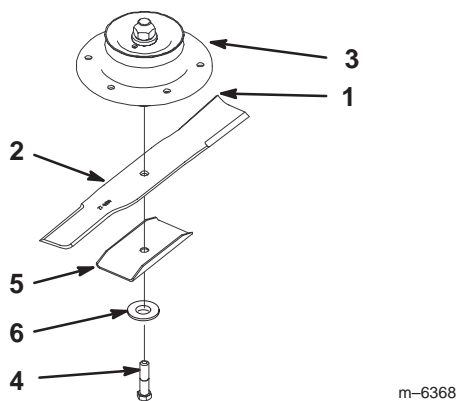
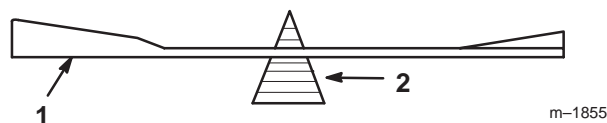

Figure 42
Figure 44
1. Hold the blade end using a rag or thickly-padded glove. Remove the blade bolt, blade stiffener, washer, and blade from the spindle shaft (Fig. 42).
2. Check the balance of the blade by putting it on a blade balancer (Fig. 44). If the blade stays in a horizontal position, the blade is balanced and can be used. If the blade is not balanced, file some metal off the end of the sail area only (Fig. 42). Repeat this procedure until the blade is balanced.
1. Install the blade onto the spindle shaft (Fig. 42).
Important The sail part of the blade must be pointing upward, toward the inside of the mower to ensure proper cutting (Fig. 42).
2. Install the lock washer and blade bolt (Fig. 42). Torque the blade bolt to 85–110 ft-lb (115–140 N•m).